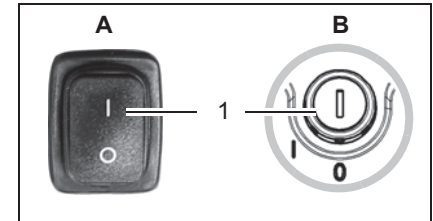

Fig.3
Switch the machine on by actuating the switch (Fig. 3/1) from position (0) to position (1).